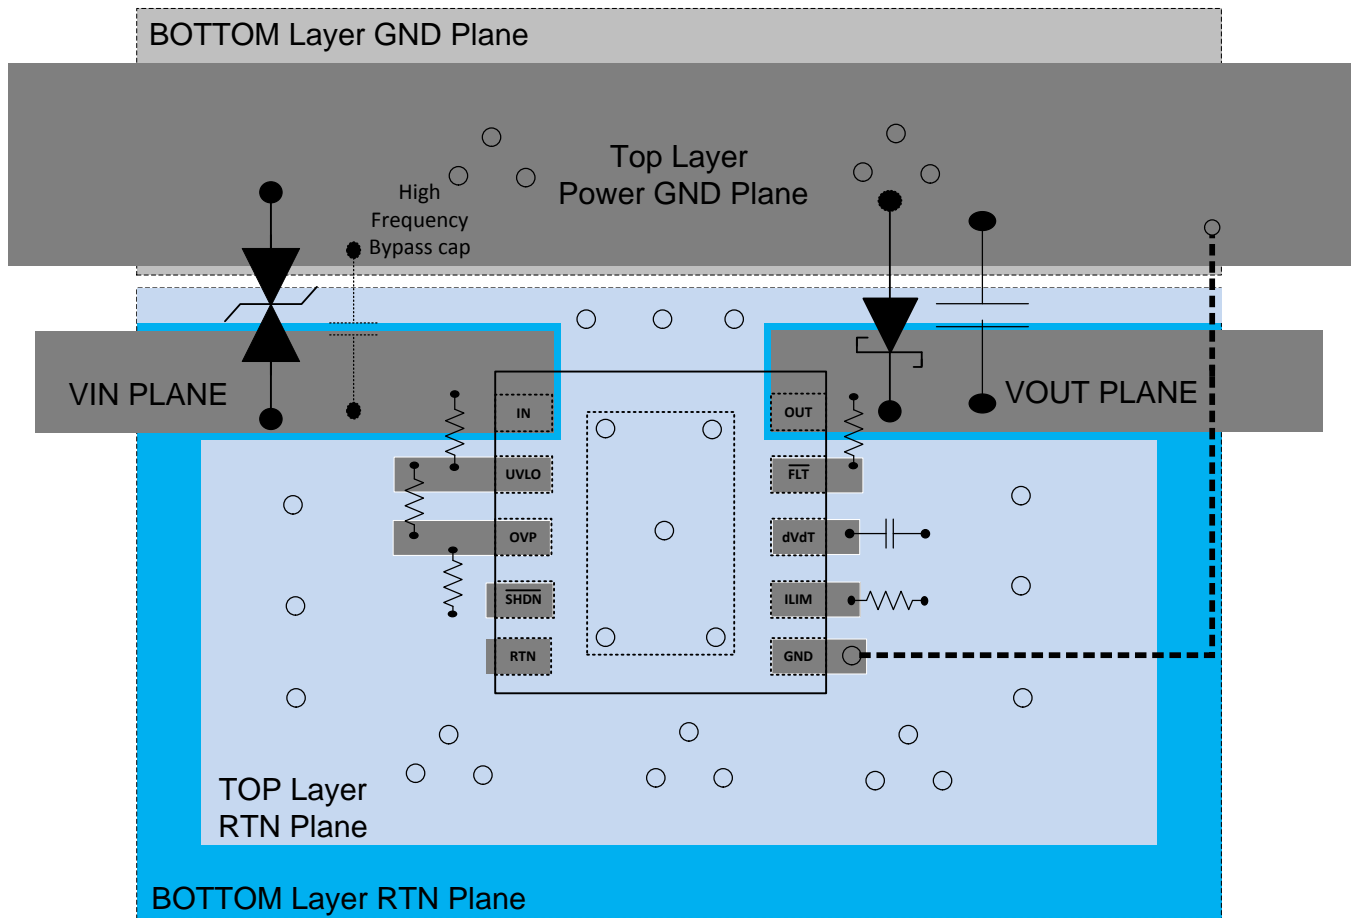

Figure 63. Typical PCB Layout Example With a 2 Layer PCB
- The optimum placement of decoupling capacitor is closest to the IN and GND terminals of the device. Care must be taken to minimize the loop area formed by the bypass-capacitor connection, the IN terminal, and the GND terminal of the IC. See Figure 63 for a typical PCB layout example.